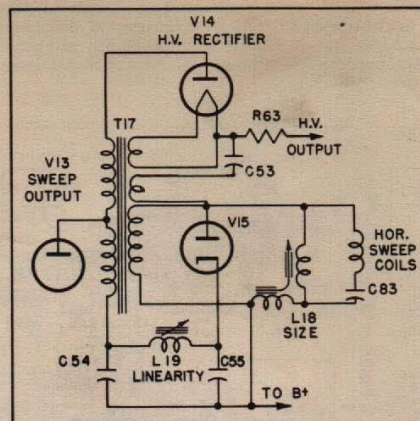

Fig. 8. Horizontal Sweep Output
6. HORIZONTAL SWEEP OUTPUT (SEE FIGURE 8).
8. HIGH VOLTAGE SUPPLY (SEE FIGURE 8).